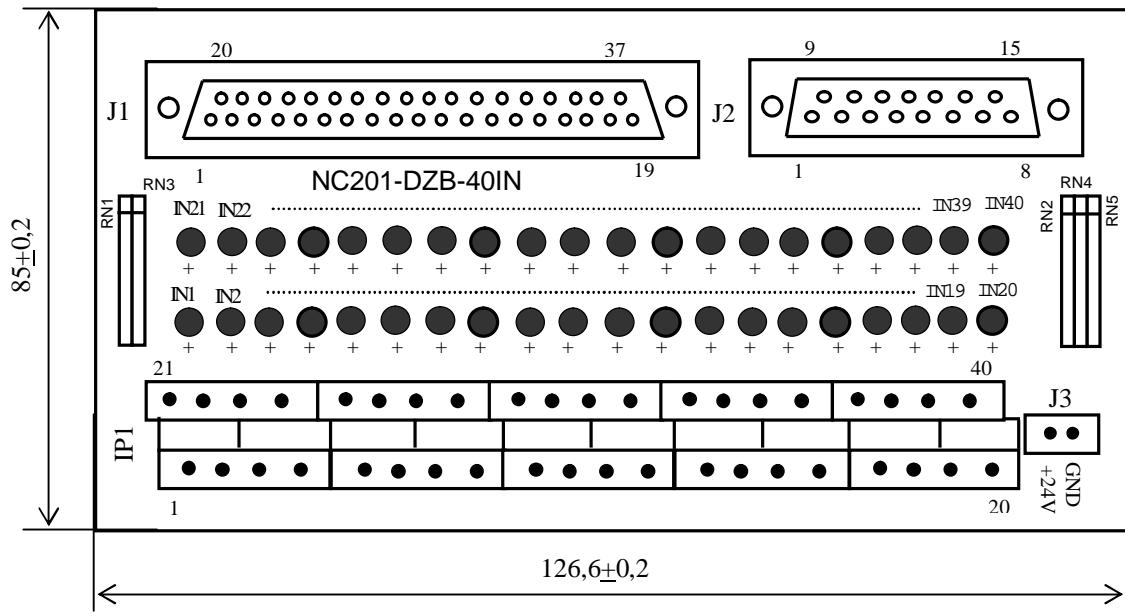

Figure D.1
10.4.3.1 The external view of the NC201-402 module is presented in Figure D.1. The module height is 50 mm max. The module can be mounted onto a DIN-strip.